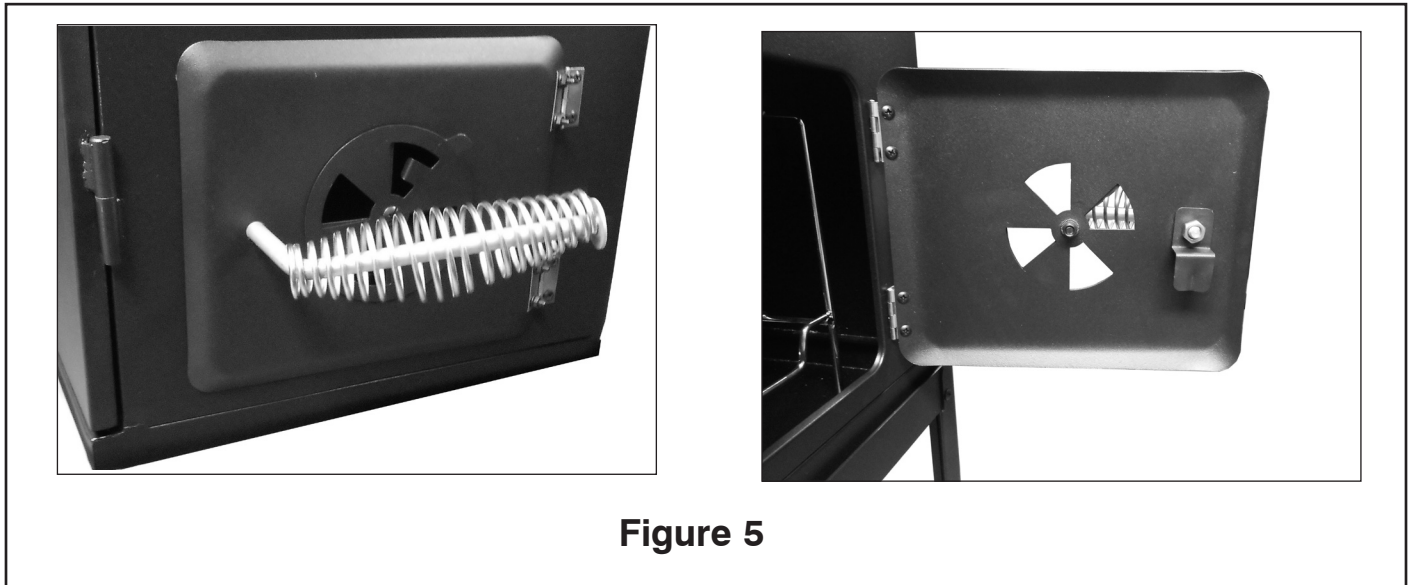

Figure 5
6. Install side smoker access door handle using one cool grip handle, latch, lockwasher and nut. Insert handle through side smoker door as shown in Figure 5. Keep cool grip handle horizontal. Place latch over threaded end of handle on back side of side smoker door. The bend on latch should be pointed down (See Figure 5 below). Tighten with supplied lockwasher and nut. Turn side access door handle down to latch in place.
5. Check that the flame is blue and that the flames are emitted from every port in the casting. If not, rotate the air shutter position until there is a blue flame. Opening the shutter too much will cause the flame to "Lift" off the burner (**Figure 5**). If there is a yellow flame, or if some ports have no flame, this indicates there may be an obstruction in the venturi tube or ports. Check the maintenance instructions on pages 19-20 for more information regarding a yellow flame.